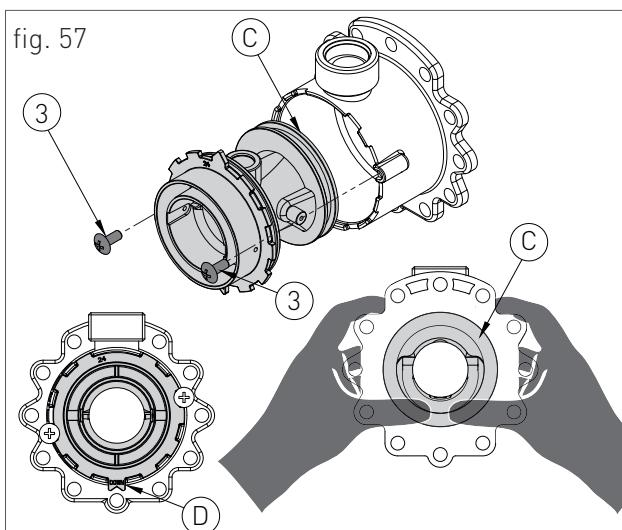

fig. 57
- › remove the two screws '3' (fig. 57) and apply pressure on the rear side of venturi 'C' (fig. 57);
- › replace the venturi with the one suitable for the type of supply gas (cod. 30-00230 for Gas A, cod. 30-00229 for Gas E), and make sure the tooth 'D' (fig.57) is adjusted downwards on the aluminium ring nut (see fig.57);